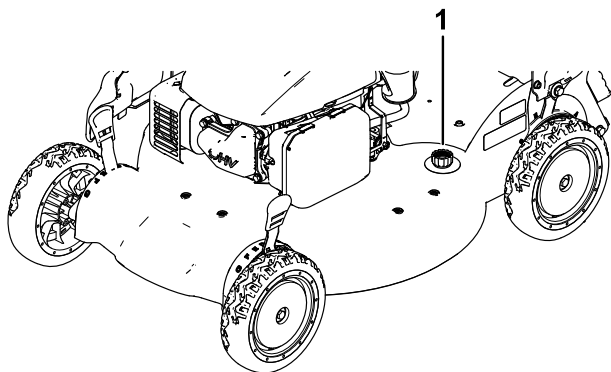

Figure 27
4. Attach a garden hose that is connected to a water supply to the washout port (Figure 27).